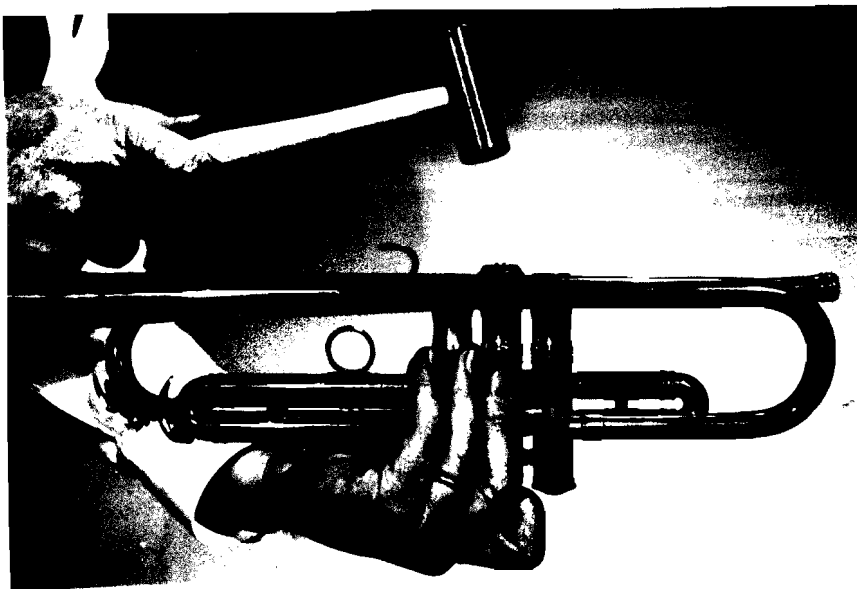

Figure 73
- c) Holding the valve in the down position (Figure 73, page 141), tap "down" on the valve cap until it is loose.